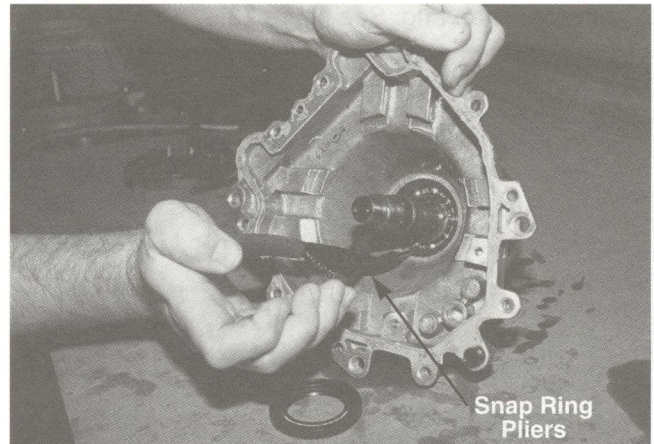

FIGURE 19.
19. Install the snap ring on the axle shaft to retain the bearing on the shaft, making sure that the snap ring is in the groove on the axle. See figure 19.